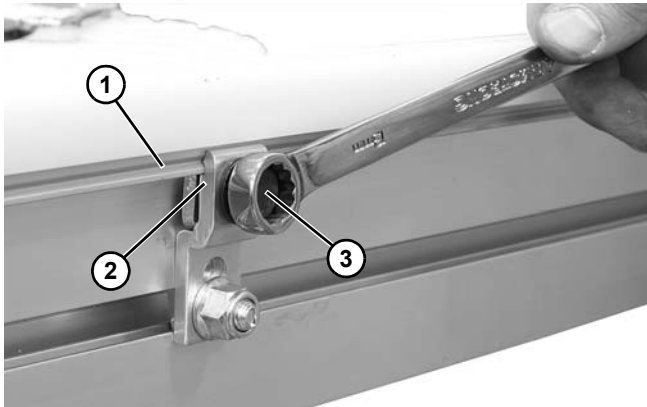

Figure 87
5. Attach guiding (**Figure 87, item 1**) to clip (**Figure 87, item 2**) and tighten screw (**Figure 87, item 3**).